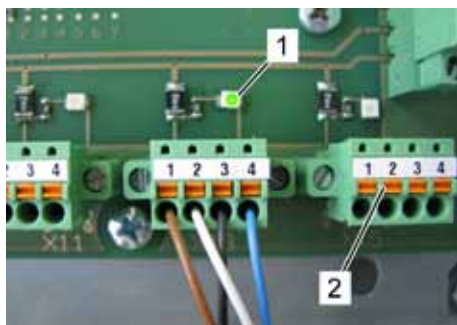

Fig. 108: Terminal box
2. Open the Terminal box and check all connected terminals for the respective LED (Fig. 108/1) being on.
3. If an LED is off remove the respective connector (Fig. 108/2).
Ä The LED (Fig. 108/1) must be on.